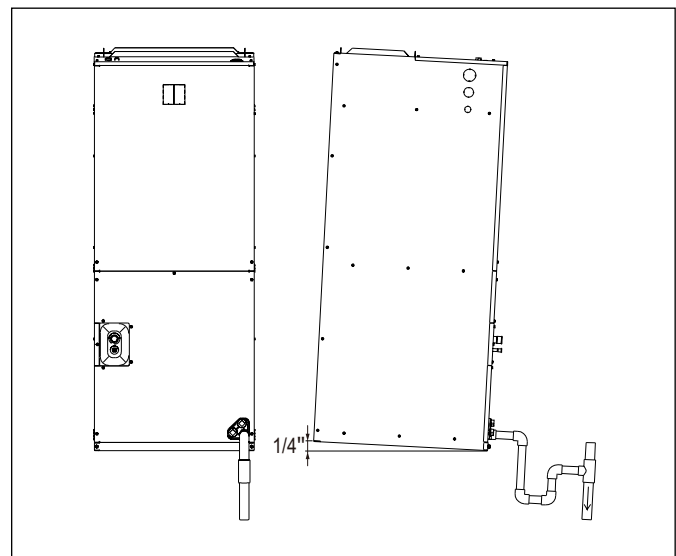
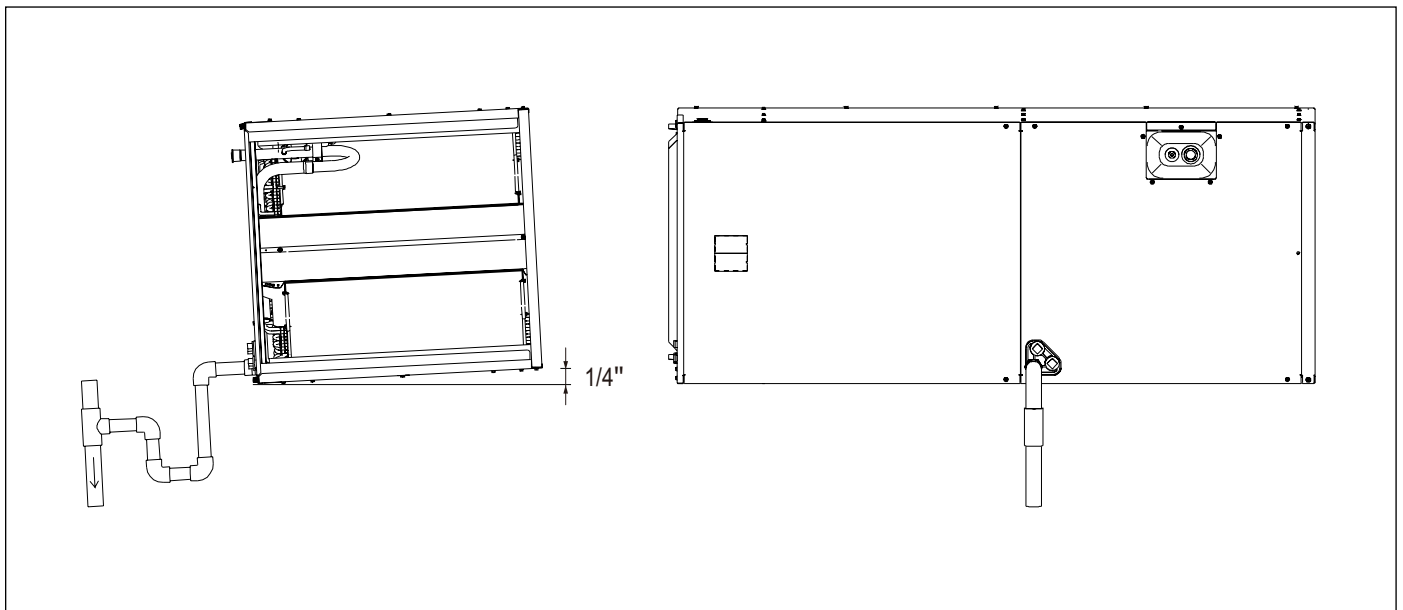

Figure 19 Vertical upflow view
Figure 22 Horizontal left view
- Make sure unit is leveled or pitched slightly toward primary drain connection so that water will drain completely from the pan. Up to an additional 1/4" rise over the width or depth of the unit is allowed to create additional sloping towards the drain. Unit must be positioned between level and 1/4" rise ,sloping toward the drain connections. See Figure 19 to Figure 22 for reference.